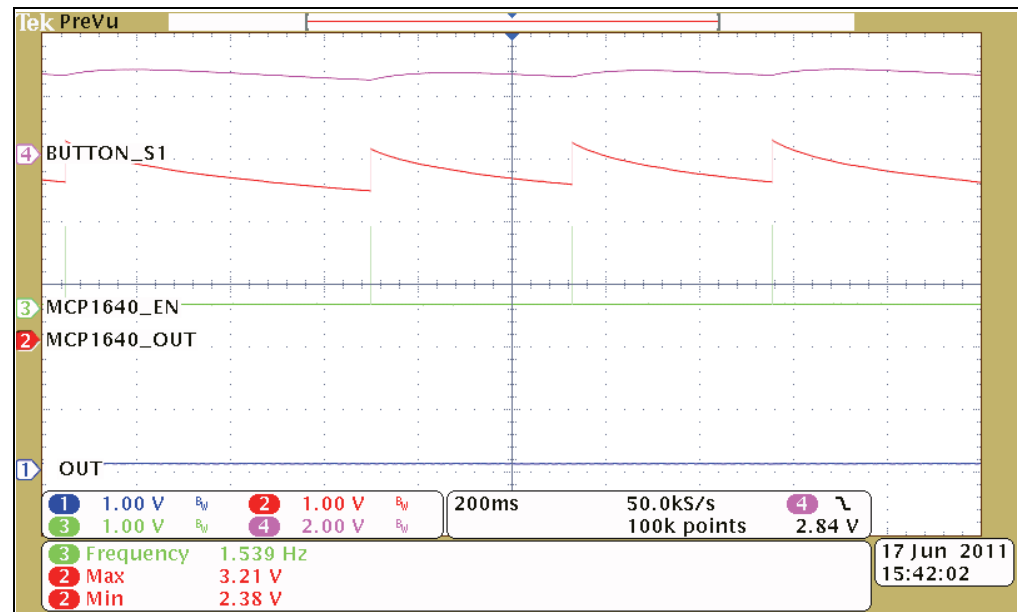

FIGURE 2-4: Waveforms while MCP1640 is Shutdown (OUT is off).
- Added Figures 2-4 and 2-5 in **Section Chapter 2. “Installation and Operation”, (Section 2.2.2)**.